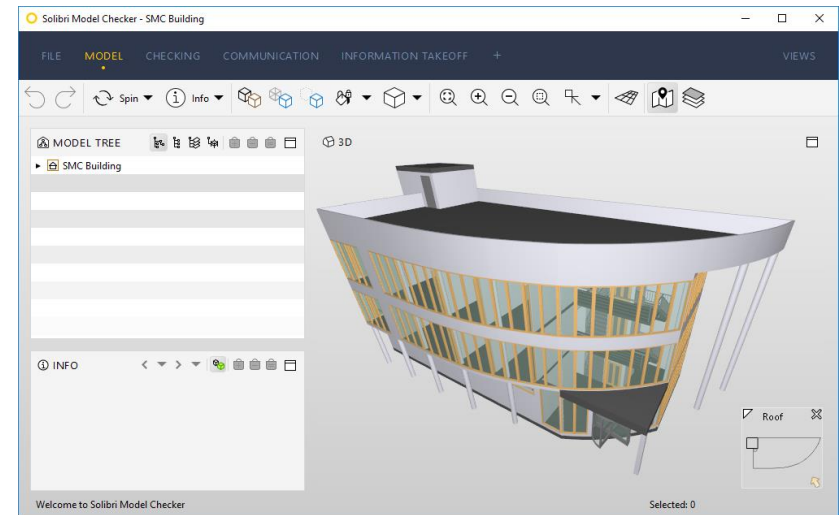

Figure 10: SMC User interface showing the Model layout
- 4) After the file has been opened, you will see the model in the user interface. Note: You are now operating in the **Model Layout** (see Figure 10).